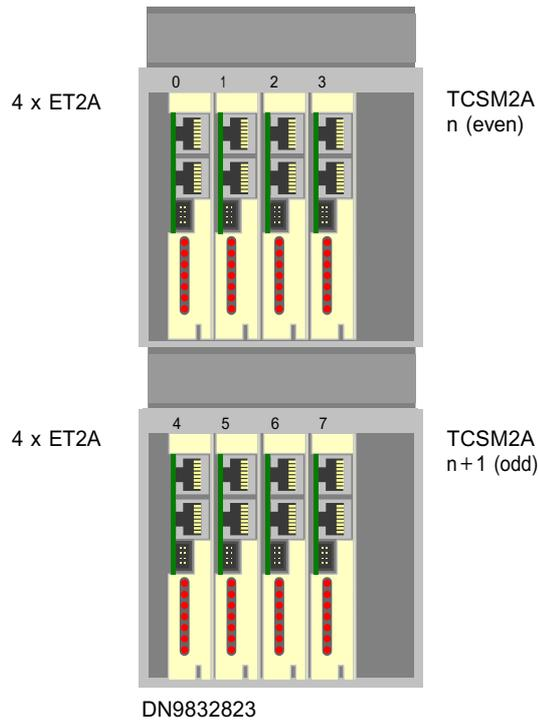

Figure 1. Equipping of ET1TC in the TCSM2A application (maximum configuration)
- Figure 1. Equipping of ET1TC in the TCSM2A application (maximum configuration) **13**